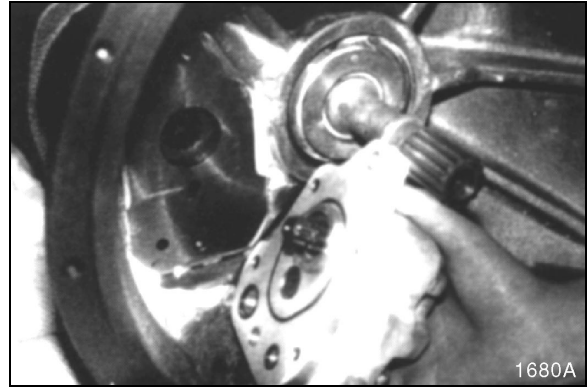

Figure 86
9. Mount pilot pump. See Figure 86.